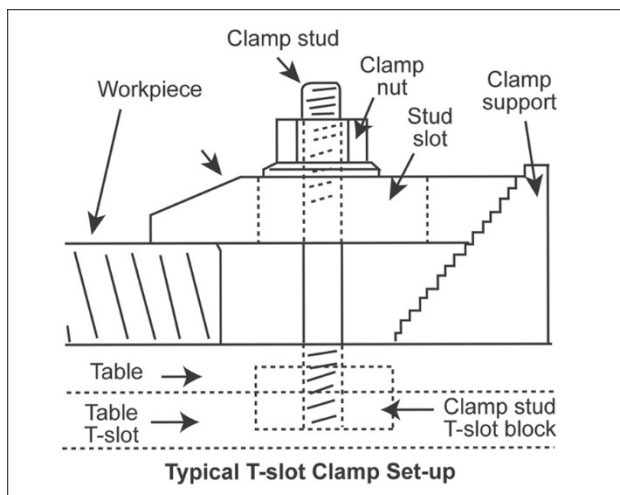

Figure 15
- Clamp workpiece using T-slot clamps, studs, and step blocks as required (Figure 15).